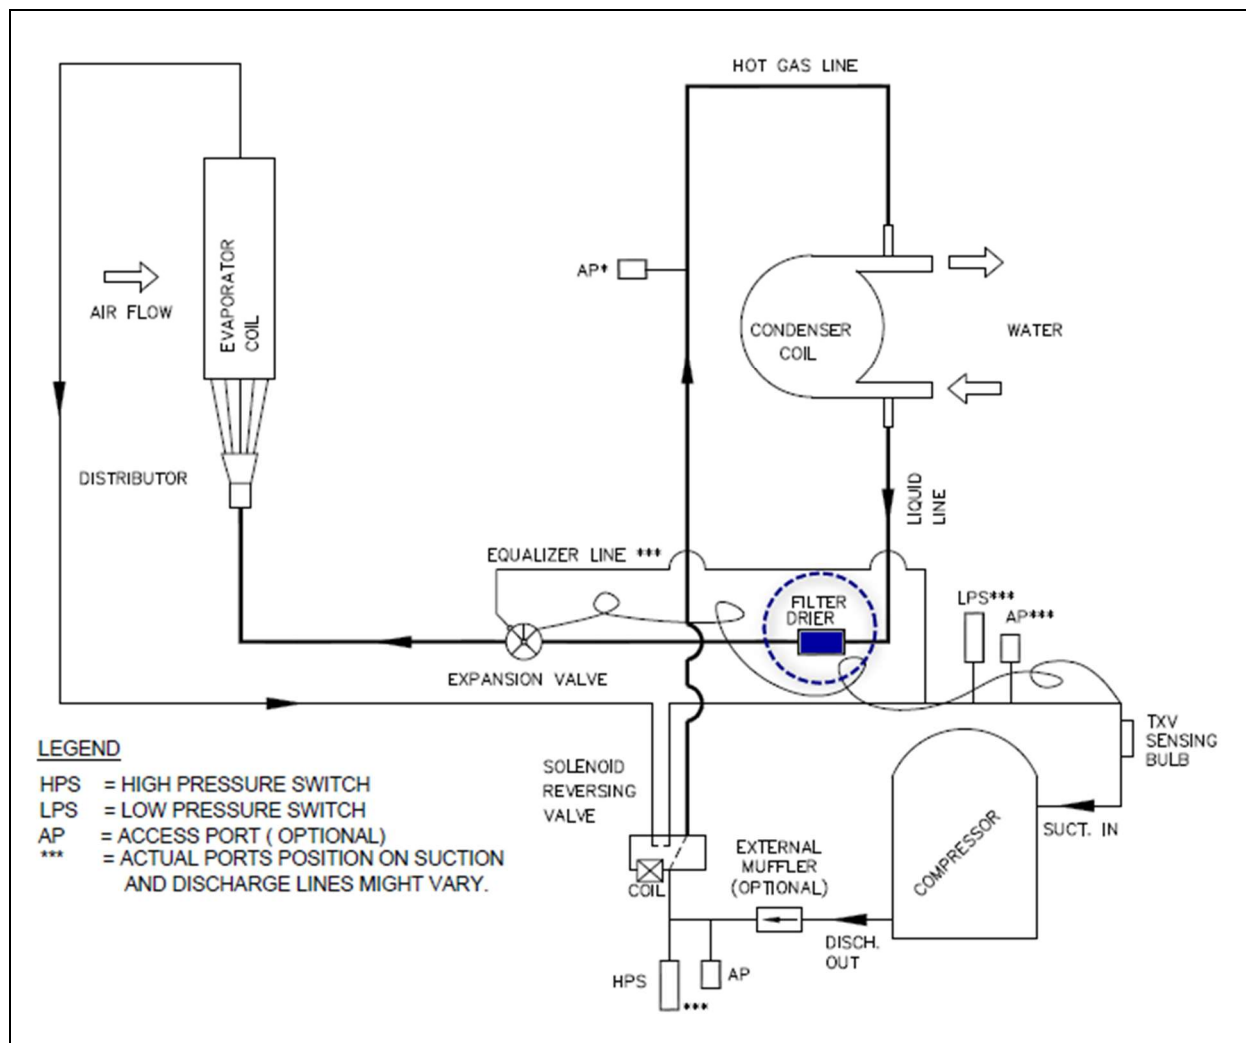

Figure 18. Piping Schematic. Filter drier and overall components location.
13) Install a filter drier between TXV and water coil. See Figure 18.
- 8) Install a filter drier between TXV and water coil. See Figure 18.